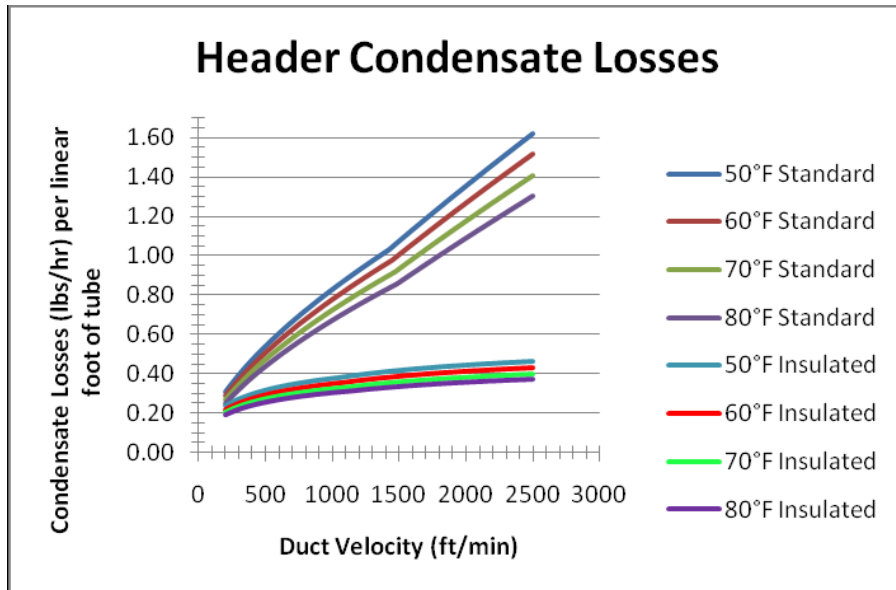

Figure 3: Condensate Losses per Linear Foot of Header
Figure 3 shows the condensate losses per linear foot of tube for uninsulated and insulated headers various temperatures and duct velocities.
- From Figure 3, at 1000 feet per minute and 55°F the specific losses would be 0.80 lbs/hr per linear foot.
3. Likewise from Figure 3, the header losses are found to be 0.36 lbs/hr per linear foot. Multiplying by header length gives the total insulated header losses: